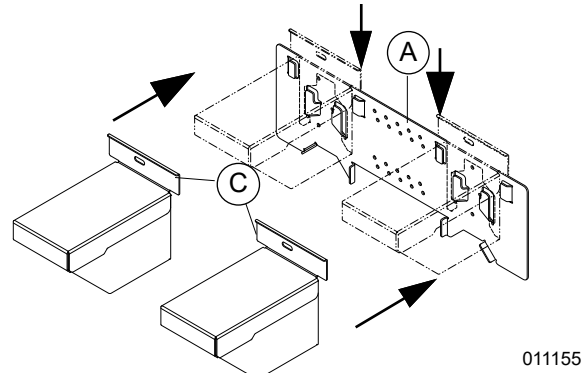

Figure 4-4. Insert Stands Onto Foot Bracket
4. See **Figure 4-4**. Slide foot stands (C) onto foot bracket (A) making sure underside of pockets clear bottom bracket before engagement. Proper installa-